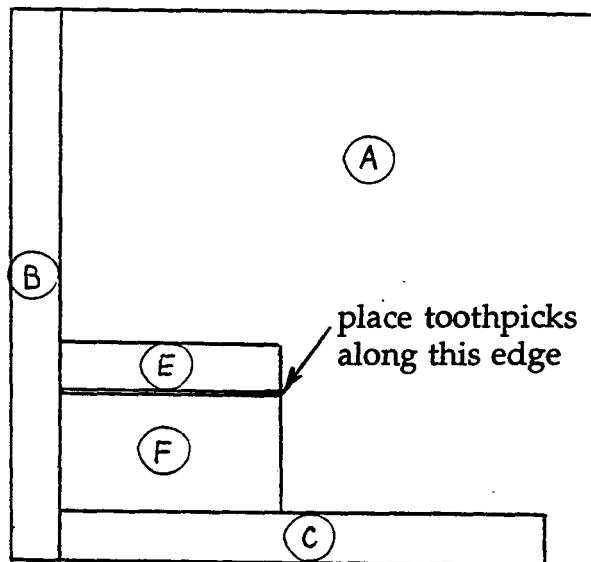

Figure 2.
Step 4: Position **door F** in the corner formed by **strips B** and **C** as a spacer for positioning **strip E** directly above it as shown in Figure 2. You will need to use some shim material to provide the 1/8" space between **door F** and **strip E**. A round, wooden toothpick is about the right size. Two can be used to provide the needed space. Glue, clamp and nail **strip E** in place being careful not to lose positions of the pieces when turning **back A** over.